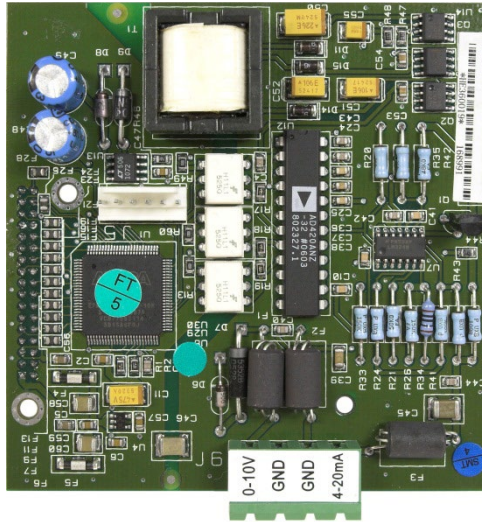

Figure 1-1: Analog Output Option Board for ACM500
- Figure 1-1 shows an Analog Output Option Board with its connector at bottom center.